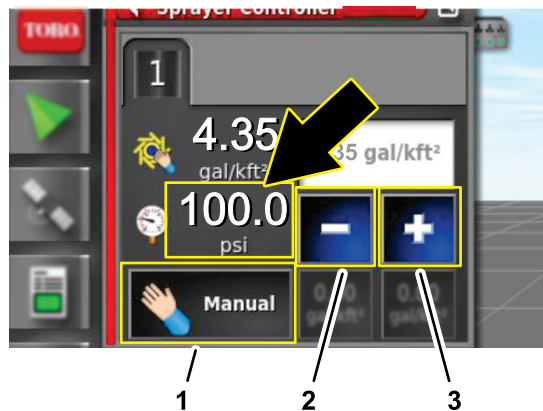

Figure 201
- In the spray rate controller dialog box, press the RATE CONTROL MODE icon until manual mode displays (Figure 201).
- Press the decrement icon (-) or increment icon (+) to adjust the spray system pressure (Figure 201) to 6.9 bar (100 psi).